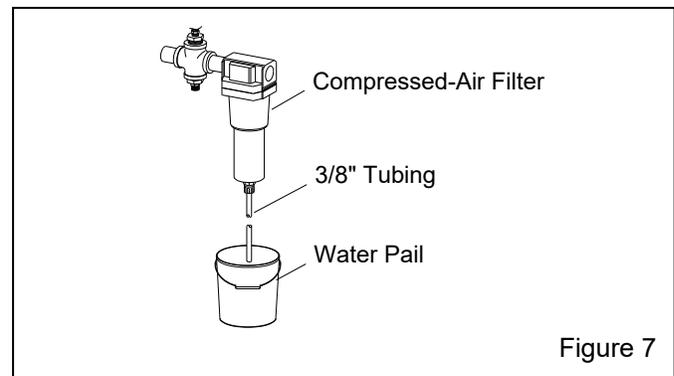

Figure 7
**2.6.1** Insert a section of 3/8" tubing into the automatic drain at the bottom of the compressed-air filter, as shown in Figure 7, and place the other end into a pail. When the filter automatically drains, the water will drain into the pail.